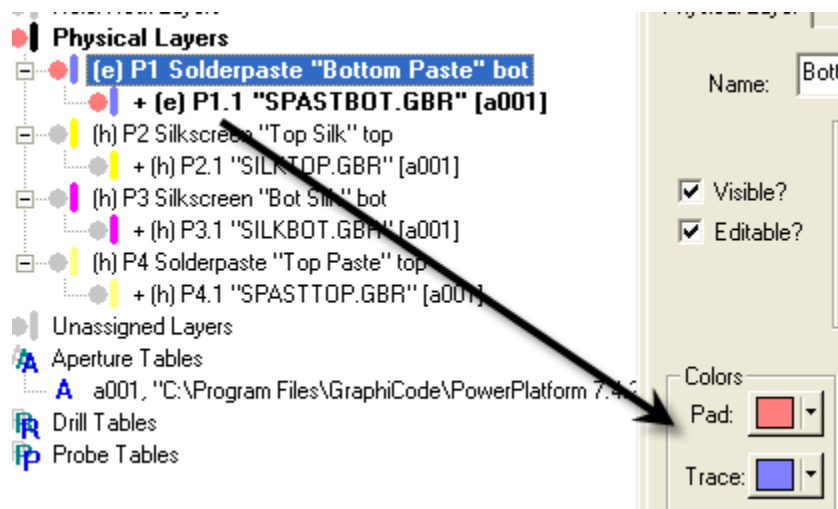

Figure 25
5. View the pads on the layer to compare the pad and trace colors – See Figure 25: